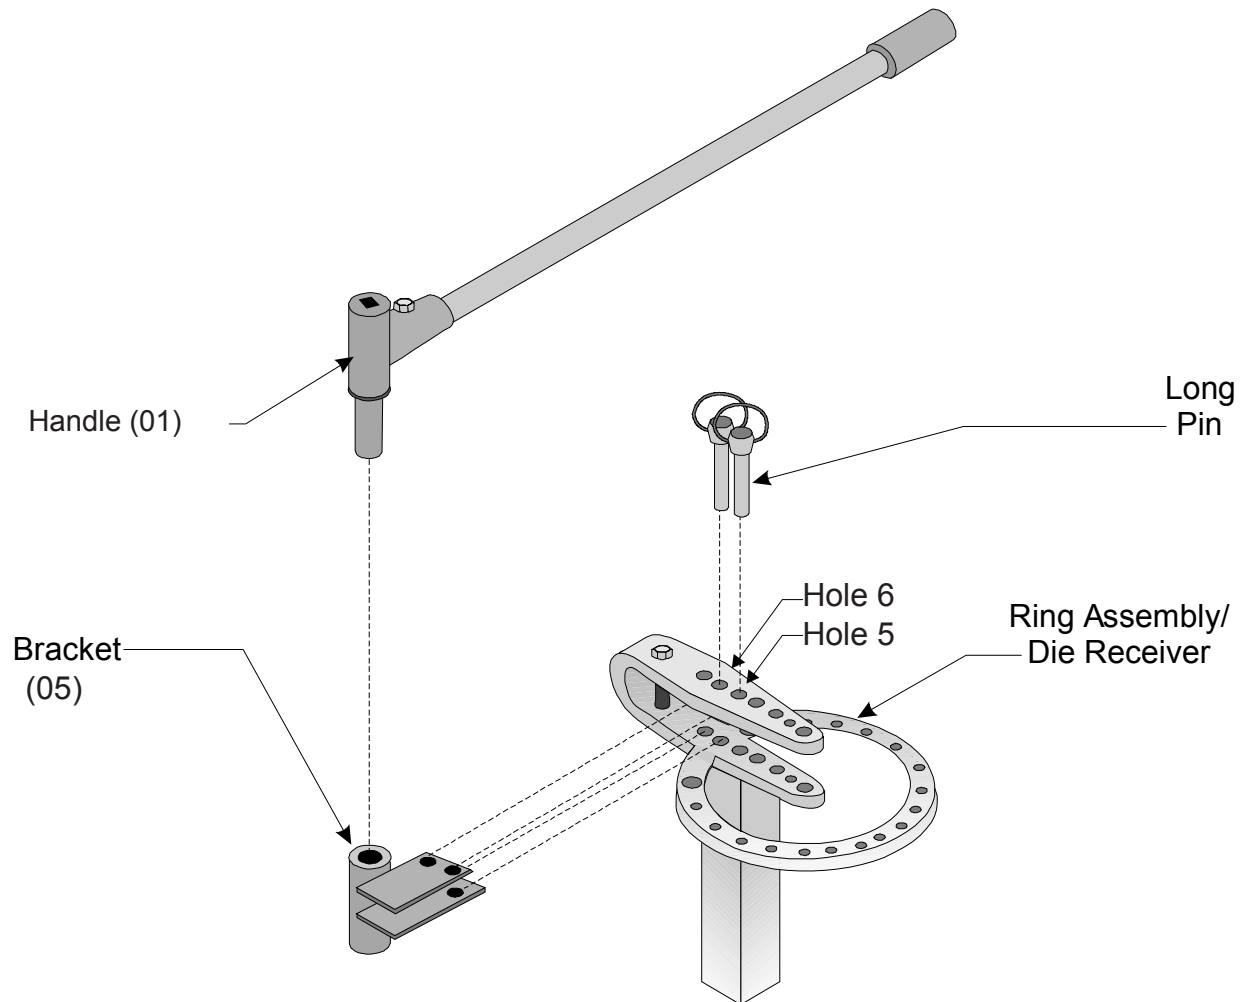

Figure 2 — Handle Head Assembly
Step 3: Attach the BRACKET (05) to the RING ASSEMBLY/DIE RECEIVER (10) of the Compact Bender using two LONG PINS (1). Use Holes 5 & 6. See Figure 2.
Step 4: Insert the HANDLE (01) into the BRACKET (05).